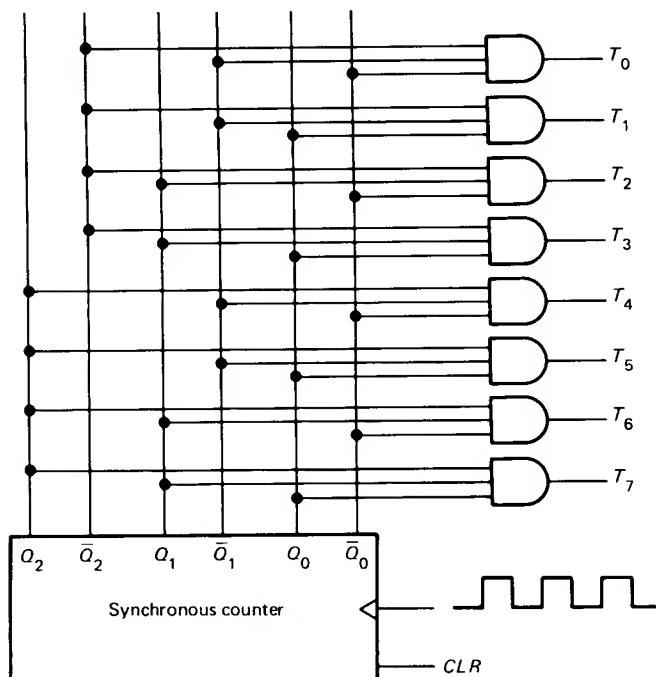

Fig. 8-32
- 8-12.** Figure 8-32 shows another way to produce ring words. After the circuit is cleared,
- 8-13.** If the clock frequency is 5 MHz in Fig. 8-32, how long does it take to produce all the ring words? How long is each timing bit high?